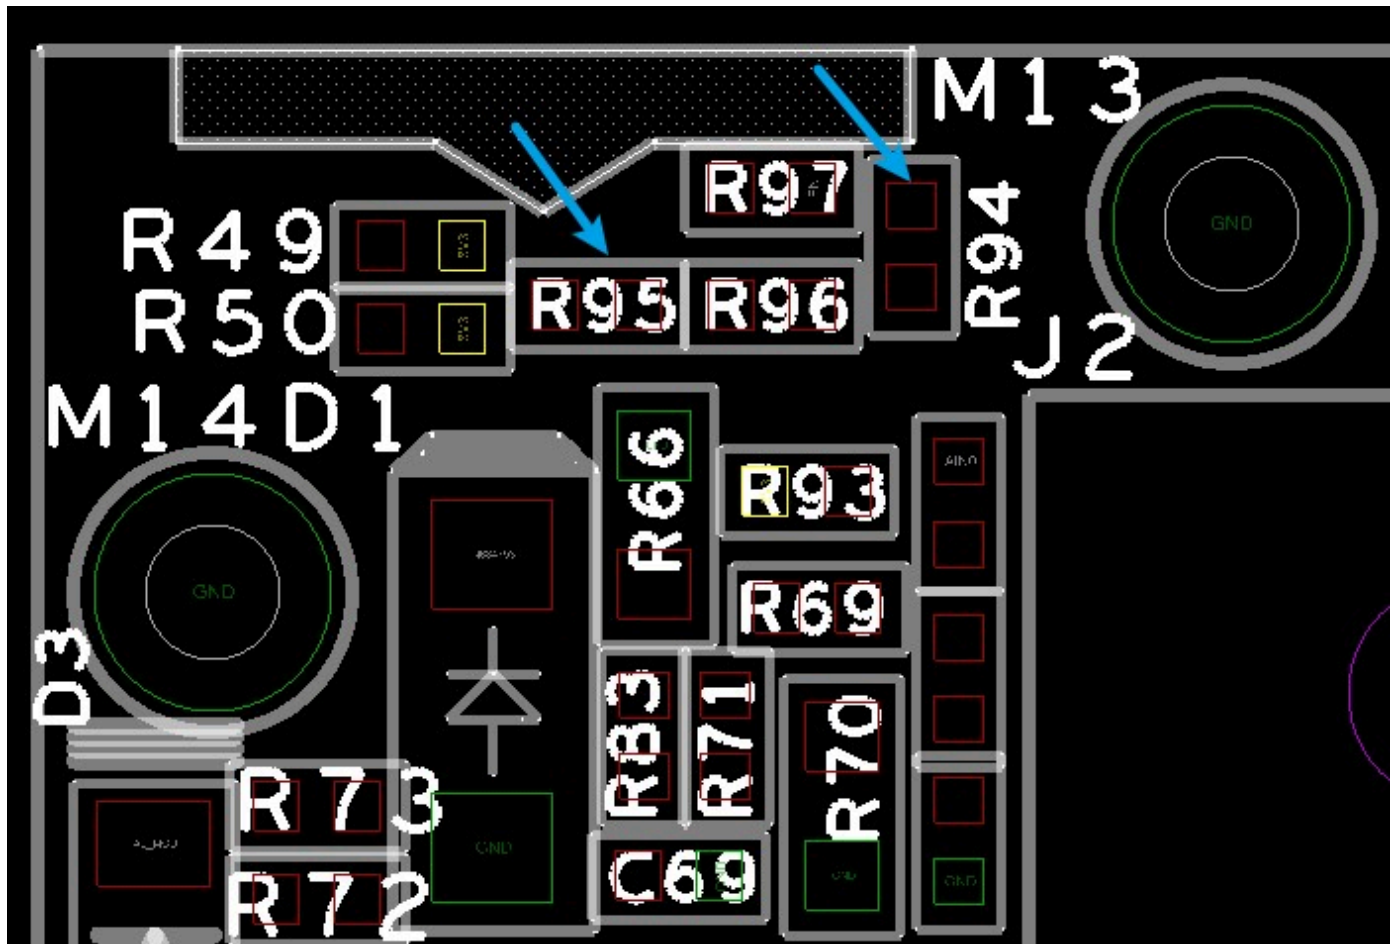

Figure 3: A0 Hardware Modifications
2. On RAK5801, remove the 0 Ohm resistor in **R94** and put it to **R95**. See **Figure 3**.